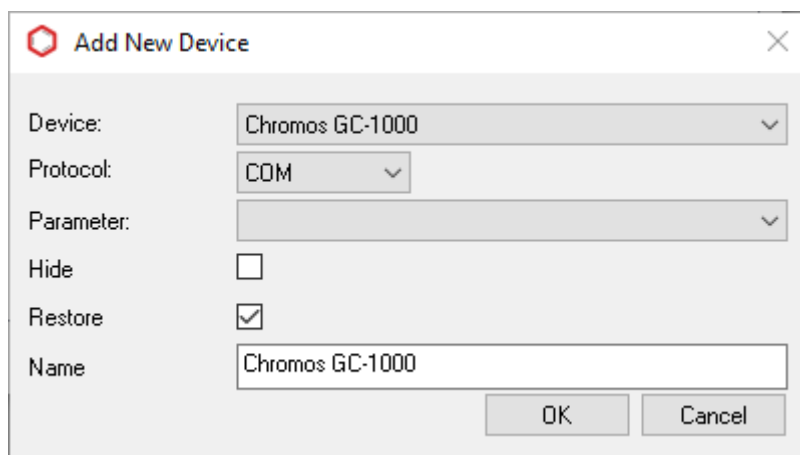

Fig. 106: Adding a Device
6. To add a device, click  **Add**. The *Add New Device* window opens (Fig. 106):